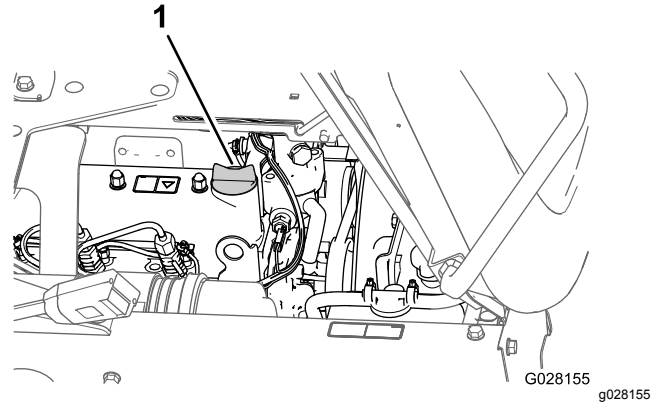

Figure 19
3. If the oil level is low, remove the filler cap from the valve cover (Figure 19) and pour oil into the